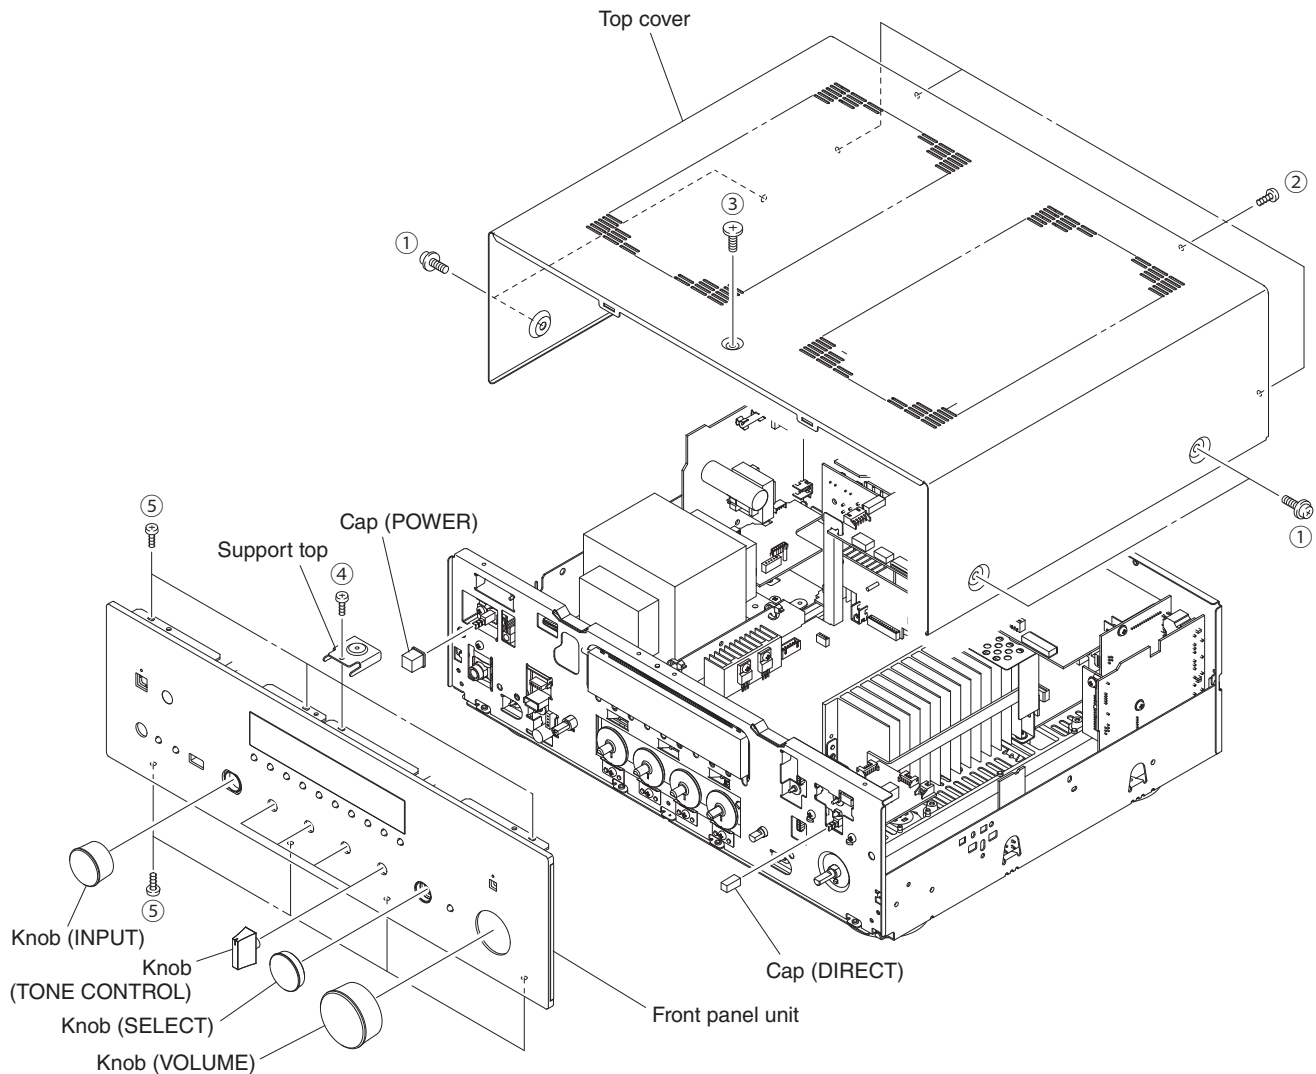

Fig. 1
- a. Remove 4 screws (①), 4 screws (②) and screw (③). (Fig. 1)
- b. Remove the top cover. (Fig. 1)
- a. Remove screw (④) and then remove the support top. (Fig. 1)
- b. Remove the knobs and caps. (Fig. 1)
- c. Remove 7 screws (⑤). (Fig. 1)
- d. Remove the front panel unit. (Fig. 1)
- c. Unlock and remove CB205. (Fig. 1)
- d. Unlock and remove CB24 and CB25. (Fig. 1)